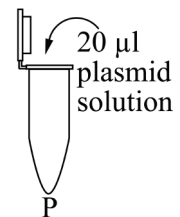

Fig. 6
5. Using the P200 micropipette and a sterile tip, add 20 μ l plasmid solution to tube “P” (Fig. 6).